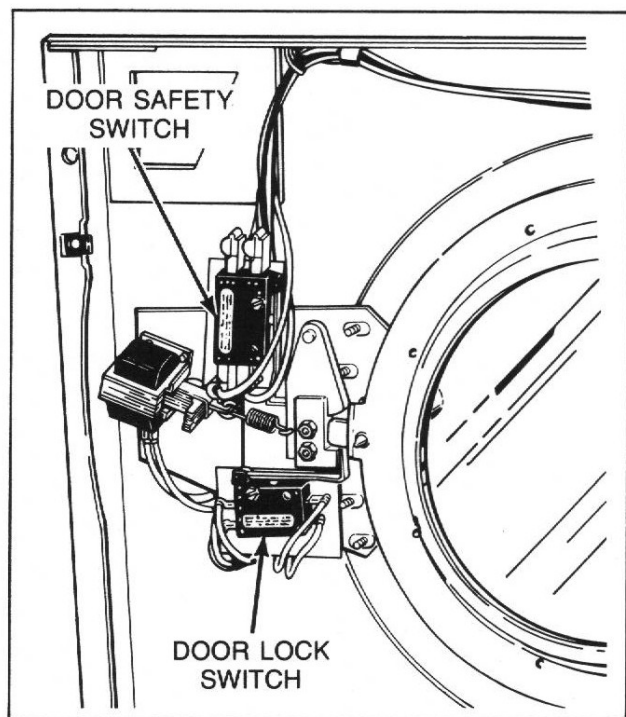

Figure 16
n. Remove two screws, nut and lockwasher holding switch to bracket, *Figure 16*.